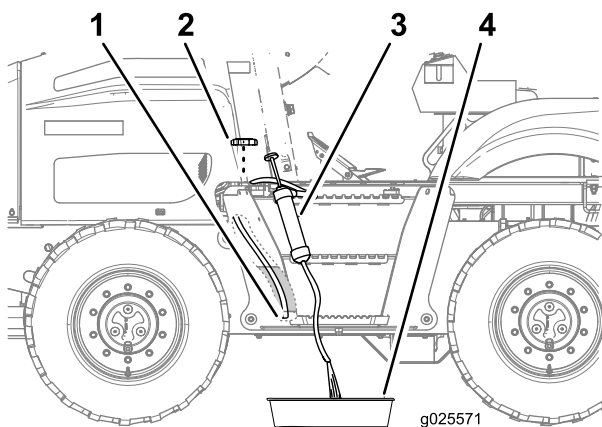

Figure 72
1. Remove the fuel cap from the fuel tank (Figure 72).
2. Route the intake hose of the siphoning equipment through the filler neck of the fuel tank and to the bottom of the tank (Figure 72).
3. Direct the discharge hose of the siphoning equipment into a drain pan (Figure 72).
6. Install the fuel cap onto the filler neck of the fuel tank (Figure 72).